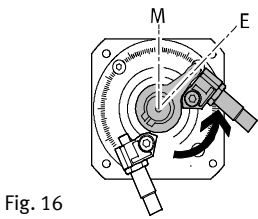

Fig. 16
6. Push the shock absorber retainer including shock absorber (elastomer shock absorber or shock absorber) towards the stop lever. When doing so, the cushioning stroke must be pushed down until the sleeve of the shock absorber is against the stop level (Fig. 16).